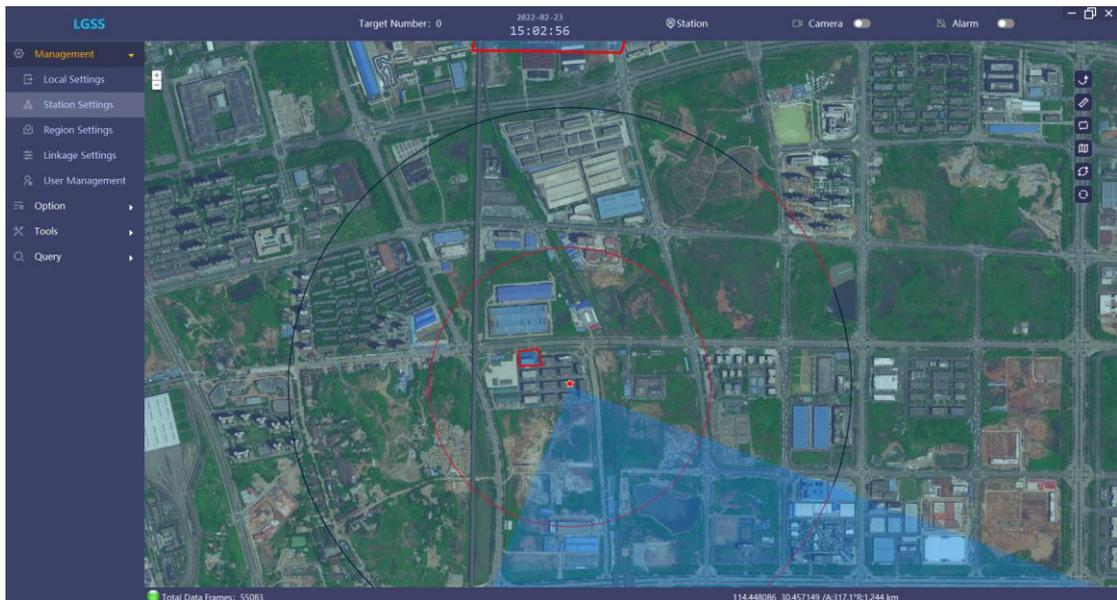

Figure 3 Interface of English version
2. Open the LGSS software. After logging into the software, all functional interfaces of the software are displayed in English. The interface effect is shown in Figure 3: